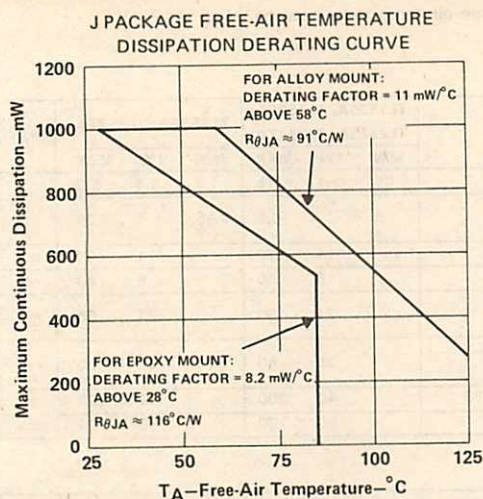

FIGURE 1
2. For operating above 25°C free-air temperature, see Dissipation Derating Curves, Figures 1 and 2. In the J package, TL1525A and TL1527A chips are alloy-mounted; TL2525A, TL2527A, TL3525A, and TL3527A chips are epoxy mounted.